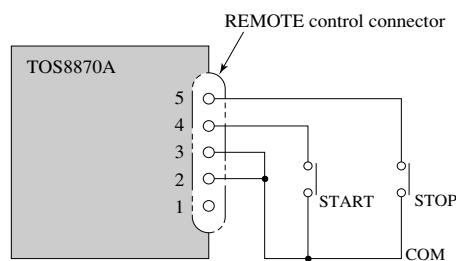
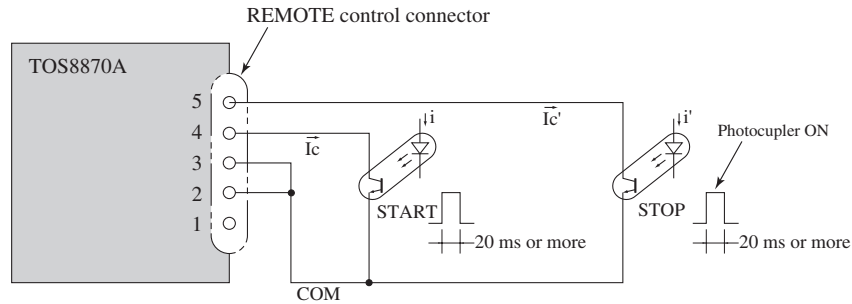

Fig.3-4
Fig.3-6
By controlling the START and STOP contacts shown in Fig.3-4, test voltage can be on-off controlled in the same manner as done at the Tester front panel. However, when the FAIL ALARM of TEST MODE switch on the rear panel is OFF. For details, refer to "3.7 Special Test Modes" on page 26.
Logical elements, transistors or photocouplers may be used instead of the switches in Fig.3-4. The example is shown in Fig.3-6. The input conditions of the Tester for such operation are as follows:
- When using the CURRENT MONITOR terminals, isolate the common line (line COM in Fig.3-6) of the control circuit from the power line and ground line of the Tester.
With a view to prevent erroneous operation which could be caused by noise, it is recommendable to use photocouplers as shown in Figure 3-6 or relays as shown in Fig.3-4.